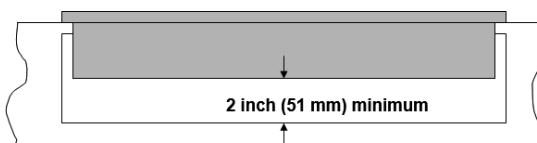

Fig. 3
- Allow a 2" minimum clearance between the bottom of the metal pan of the cooktop and any combustibile surface located below, i.e.: the upper edge of a drawer installed below the cooktop (refer to Fig. 3). Failure to provide proper clearances and ventilation may result in a fire hazard.